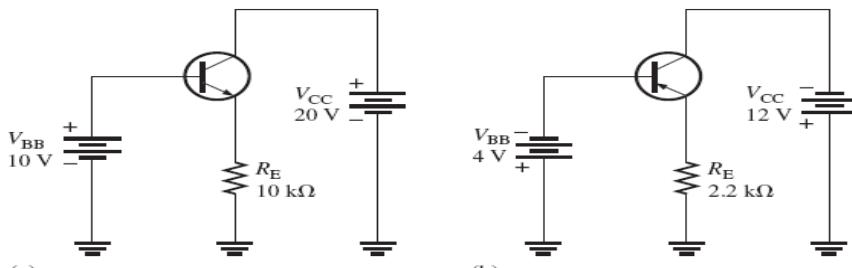

Figure 4-57
- 20.** Determine the terminal voltages of each transistor with respect to ground for each circuit in Figure 4-57. Also determine V_{CE} , V_{BE} , and V_{CB} .
- 21.** If the β_{DC} in Figure 4-57(a) changes from 100 to 150 due to a temperature increase, what is the change in collector current?